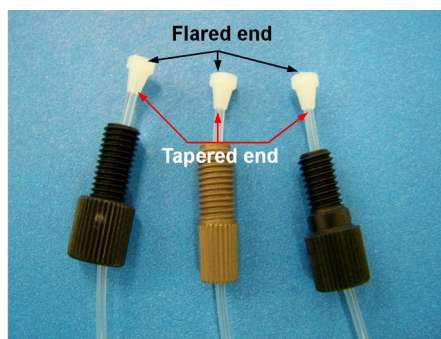

Figure 4: Orientation of the *White Ferrules*.
- The *White Ferrule* slides onto the tubing with the tapered end toward the *Nut* and the flared end toward the valve port. When installing and tightening these fittings, be sure that the tubing is pushed all of the way into the valve ports (**Figure 4**).